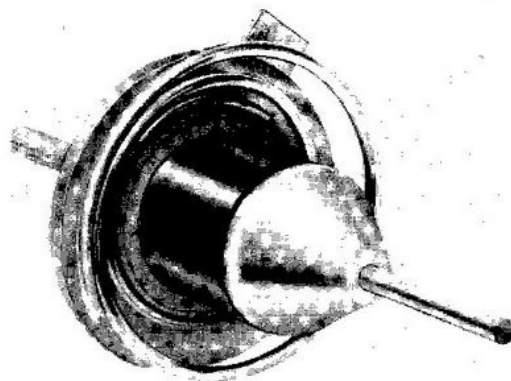

Fig. 4. Spiral spring attached to small diameter on cone head
1. Force the small end of the spiral spring over the small diameter on the armature assembly. See Fig. 4, page 3.